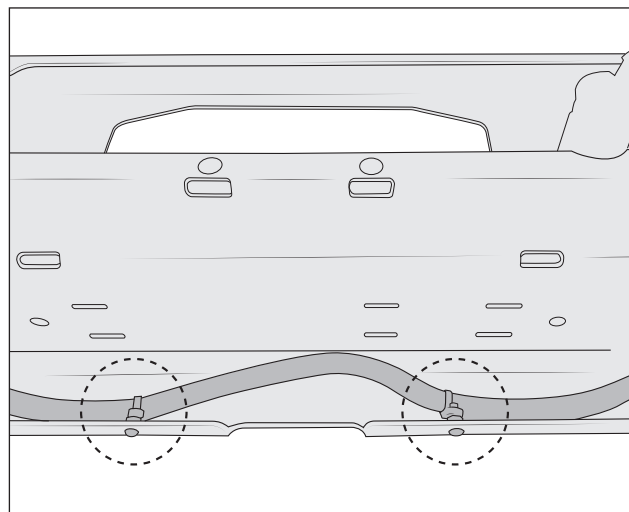

Figure 16
6. The factory harness will continue along the bottom edge of the center section. Install two of the supplied M6x20 button head bolts and nuts in the center positions. Supplied stud mounted zip ties will be used to secure the factory harness to these bolts (fig. 16). Be sure to allow for hitch assembly clearance.